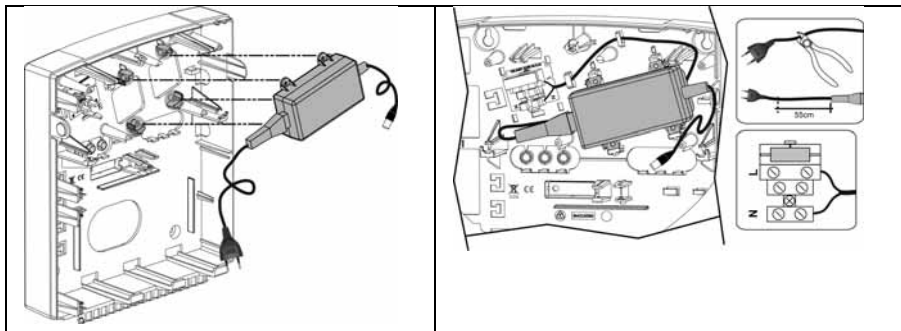

Figure 2-3 Placing the AC adapter with mains fuse
1. Connection to AC must be permanent and connect through the mains-fuse terminal block (see Figure 2-3 below):